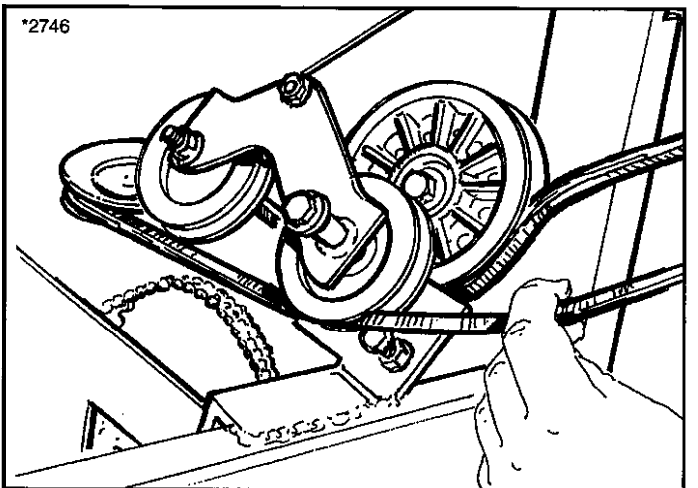

Figure 42. Wrap Belt Around Transmission Pulley
5. Wrap the belt around the transmission pulley, beveled edge in, and engage the lower idler pulley and bottom of the large angled pulley (Figure 42).